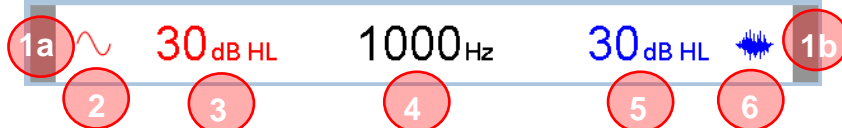

Figure 88
**12 Status Bar** The numerical display for the testing operation of the device (Figure 88).
**8 Status Bar** The numerical display for the testing operation of the device (Figure 88).